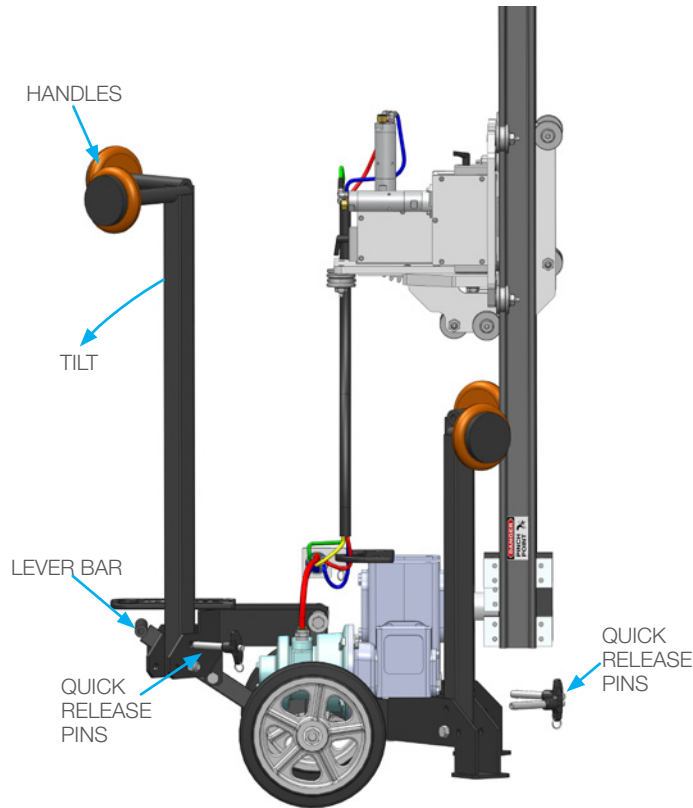

FIGURE 1
1. Lift the Lever Bar up, use the longer legs as handles, tilt the Striker back, and roll into place. Once in place, pull the 4 Quick Release Pins out of the leg assemblies. **(Figure 1)**